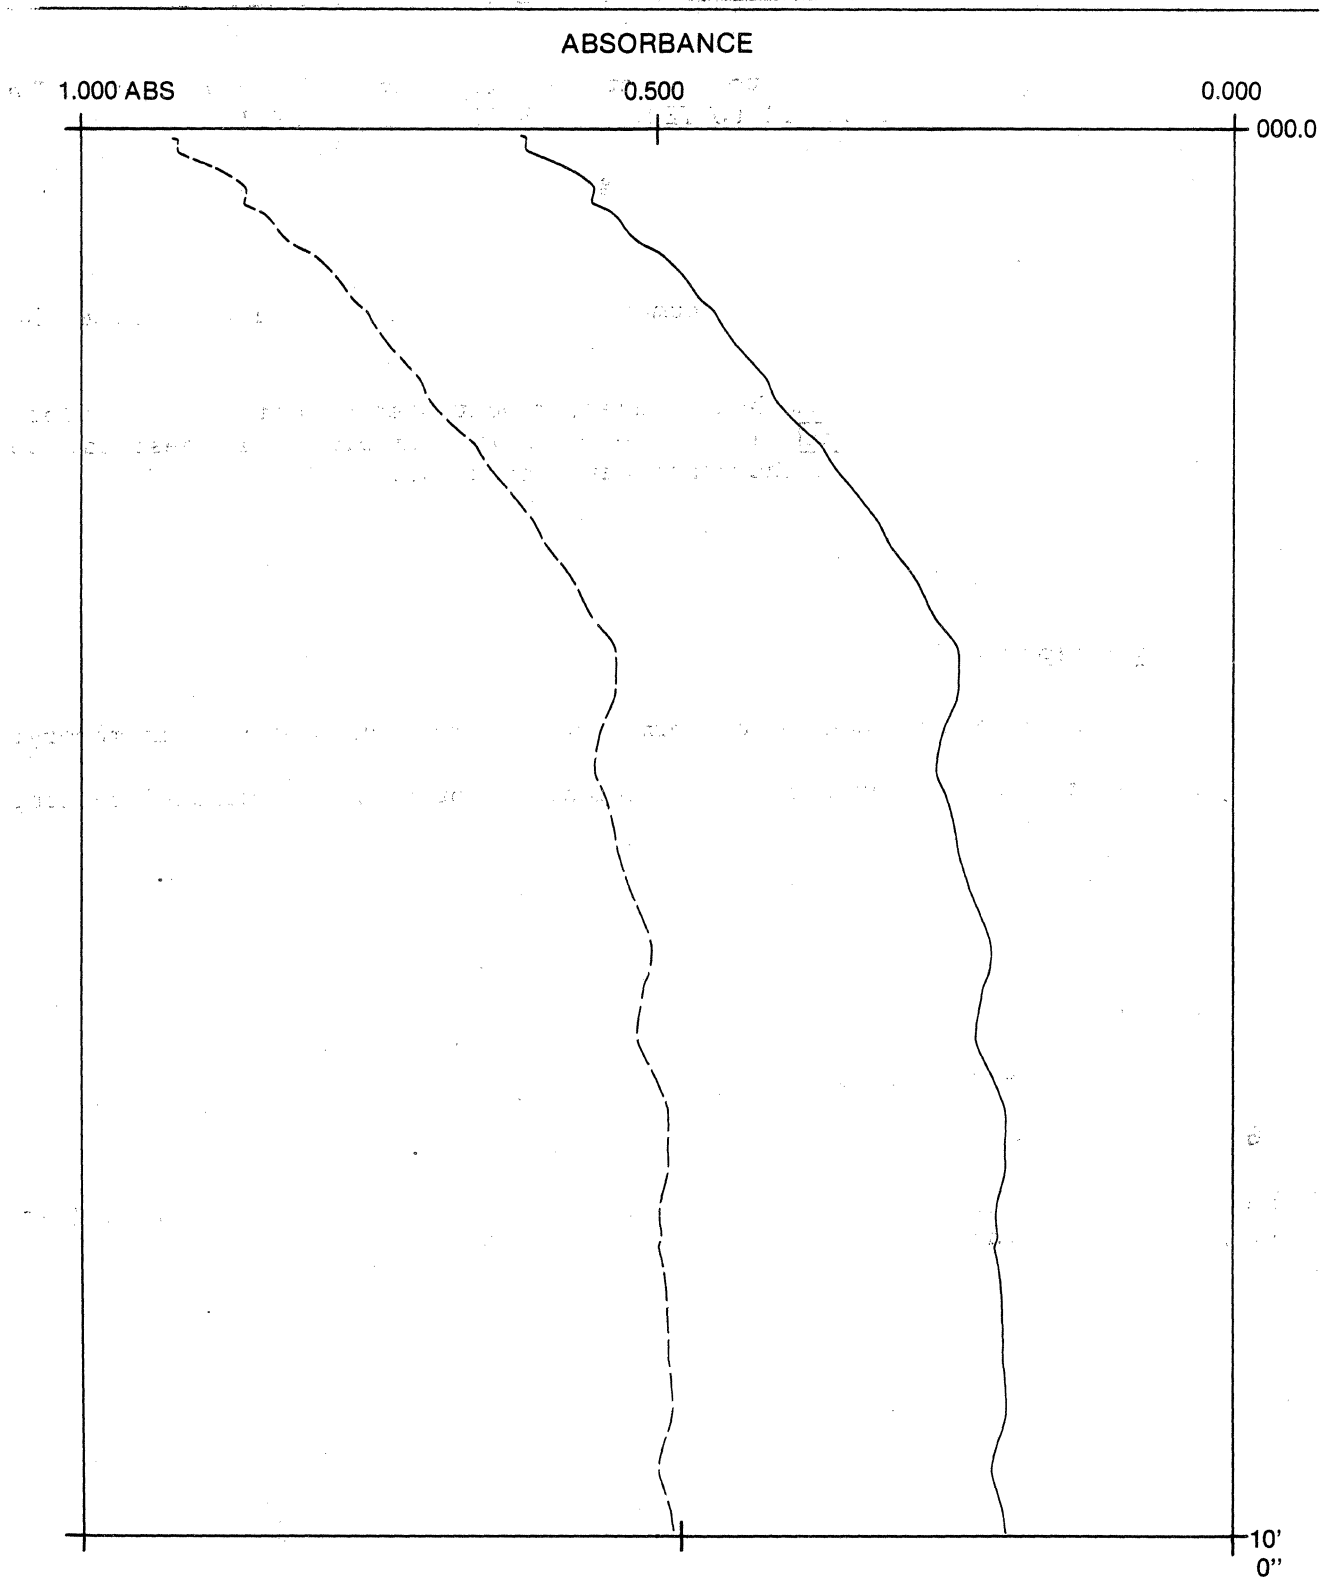

Figure 5-8. Overlay Plotting of Reaction Curves.
2. Press the **Chart Set** key. Five choices are displayed on the CRT: (1) SEQ (200mm), (2) SEQ (400mm), (3) OVERLAY (200mm), (4) OVERLAY (400mm), (5) OFF. The numbers in mm represent the length of the chart paper over which the X-axis (time scale) is drawn. The selections are made as follows:
- b. To overlay two or more plots on a single set of axes, as shown in Figure 5-8, press either **3** or **4** and **Enter**.
- c. If no selection is made, the preset value (2) SEQ (400 mm) will be used.
3. Press the **Scaling** key. Three choices are displayed: (1) ON, (2) OFF and (3) DRAW. Selections are made as follows:
- a. If sequential plots are made, select (1) ON. This is the preset condition for sequential plotting. The 9420 or 9430 automatically draws the axes each time a plot is made.
- b. If overlay plots are being made (see step 2. above), select (3) DRAW. Two things will happen. First, the 9420 or 9430 will draw the axes on the printer/plotter and rewind the chart paper to the beginning of the X-axis. Second, the **Scaling** status will automatically be set at (2) OFF, so that the axes will not be redrawn each time a plot is made.